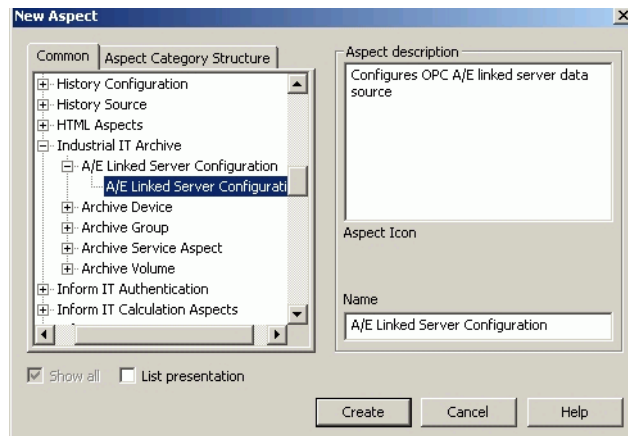

Figure 101. Creating the A/E Linked Server Configuration Aspect
- c. The A/E Linked Server Configuration aspect is located under the Industrial IT Archive Group, Figure 101.